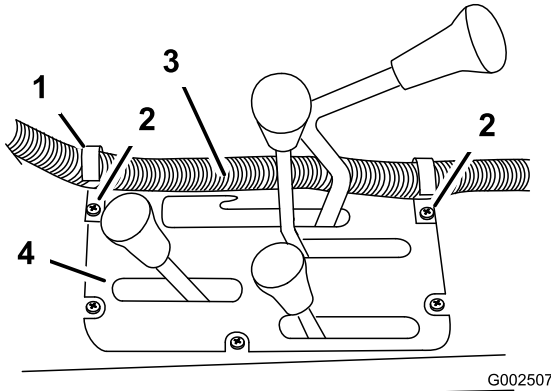

Figure 25
6. Install two J-clips in the center console at the points located in Figure 25 using the existing screws.